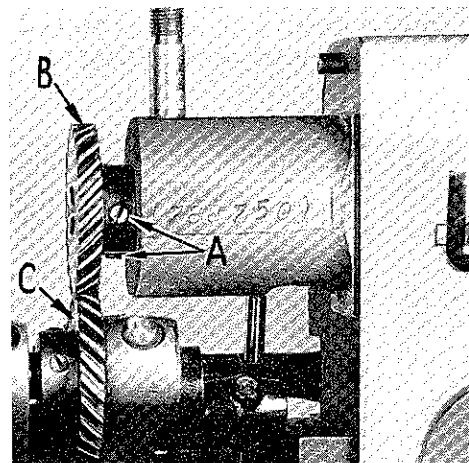

Fig. 4
Loosen screws (A, Fig. 4) in main shaft head driving gear (B) and
In timing, turn the handwheel slowly away from you and watch the movement of the plunger. You will note that on every second revolution of the handwheel the plunger is raised to its highest point. When the plunger is raised to its highest point and comes to a stop, the groove or slot in the main shaft will be on top. Maintain this position while timing the needle to the plunger, which is accomplished by turning gear (C, Fig. 4). Turn gear toward operator until the needle has raised to its highest point and is again moving toward the plunger on the right hand side of the guide. When the point of the needle is within approximately  $3/16$  inch of